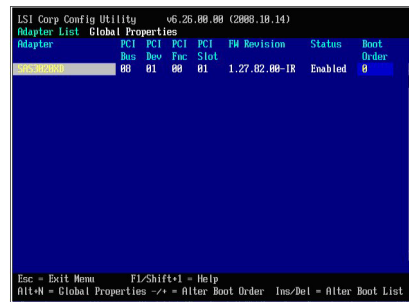

Figure 10. Adapter List screen showing SAS Expansion Card
- When the <<<Press Ctrl-C to start LSI Logic Configuration Utility>>> prompt displays during system boot, press Ctrl+C to enter the LSI Logic Configuration Utility. The Adapter List screen displays, similar to Figure 10.